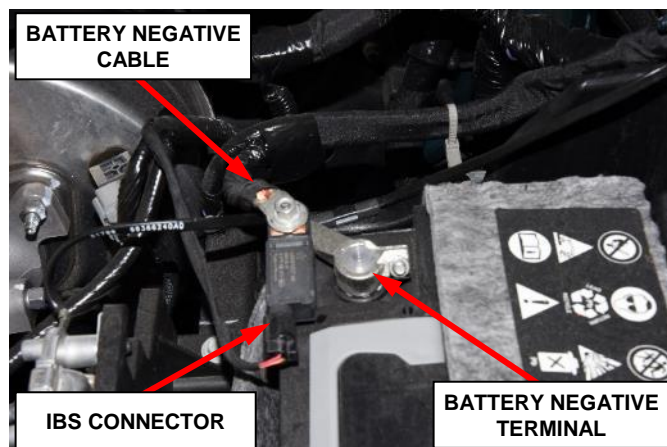

Figure 10 – Battery Cable Negative
8. Disconnect the Intelligent Battery Sensor (IBS) wire harness connector (Figure 10).
9. Remove the ground terminal M8 nut then remove and isolate the negative battery cable eyelet from the IBS and negative battery terminal (Figure 10).
- c. Connect the 12-Volt battery. If equipped with an IBS, connect the IBS connector. Secure the negative battery cable eyelet to the IBS M8 stud using the M8 nut. Tighten the M8 nut to 7 N·m (62 In. lbs.). Overtightening of the M8 nut for the negative cable to the IBS will cause damage to the IBS or break the stud for the nut (Figure 10).
- Connect the 12-Volt battery, wait two minutes before proceeding. If equipped with an IBS, connect the IBS connector. Secure the negative battery cable eyelet to the IBS M8 stud using the M8 nut. Tighten the M8 nut to 7 N·m (62 In. lbs.). Overtightening of the M8 nut for the negative cable to the IBS will cause damage to the IBS or break the stud for the nut (Figure 10).